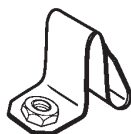

FIGURE 3
3. Attach brackets (E, F, and B) to the proper locations on the shield using the provided screws (H). (Figure 3).